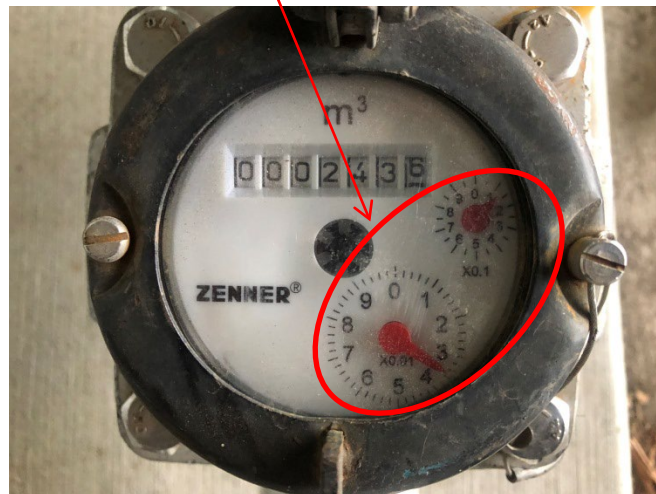

Figure 3 – Metered standpipe reading dial
- The dial for the 65 mm metered standpipe shown below in Figure 3 has provision for six digits, the numbers representing cubic metres (m³) or kilolitres (kL).